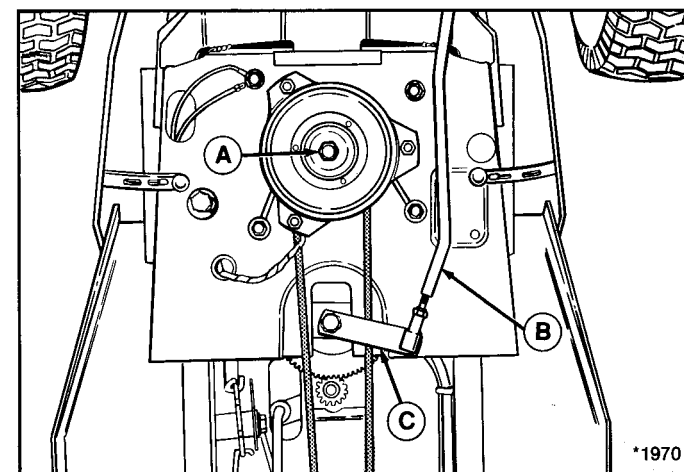

Figure 21.
5. To remove belt from engine pulley, the electric clutch must be removed and the belt slid over the top of the pulley. Remove the capscrew (A, figure 21), washer and lockwasher securing the electric clutch to the engine crankshaft. Slide belt over the top of the engine pulley.